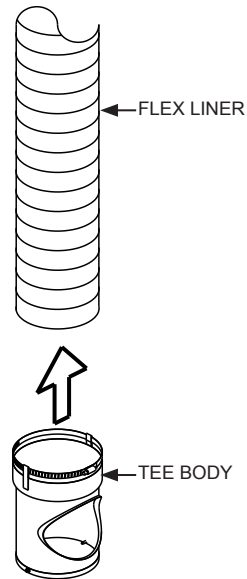

FIG. 2
- Step 2:** If a Tee is used, insert flex liner into the top of tee body and secure using clamp band (See FIG. 2). Tee Cap should be attached to the bottom of tee Body. **Remove tee branch prior to insulating liner.** The tee is to be insulated along with the liner.